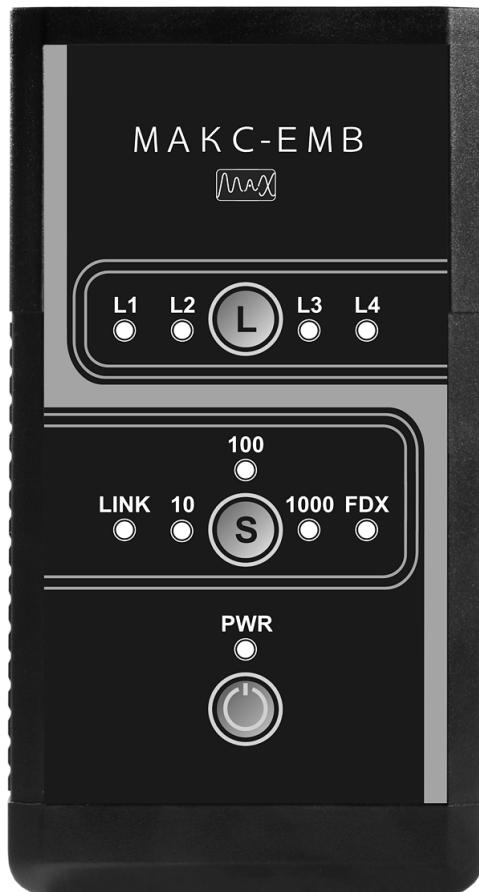

Figure 3.1. Front Panel
3.1. Figure 3.1 shows front panel of the Tool where LED indicators and keypad are located.